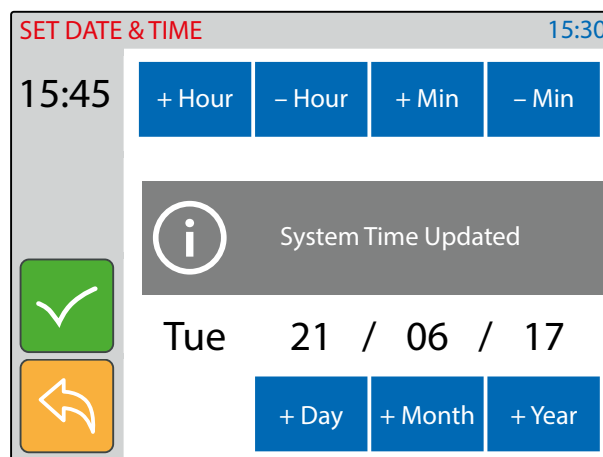

Fig. 14 Save the value set
- Operate the buttons to adjust the date & time required then tap on the tick button to confirm (Fig. 14).
- A notice will inform that the value is saved (Fig. 14).